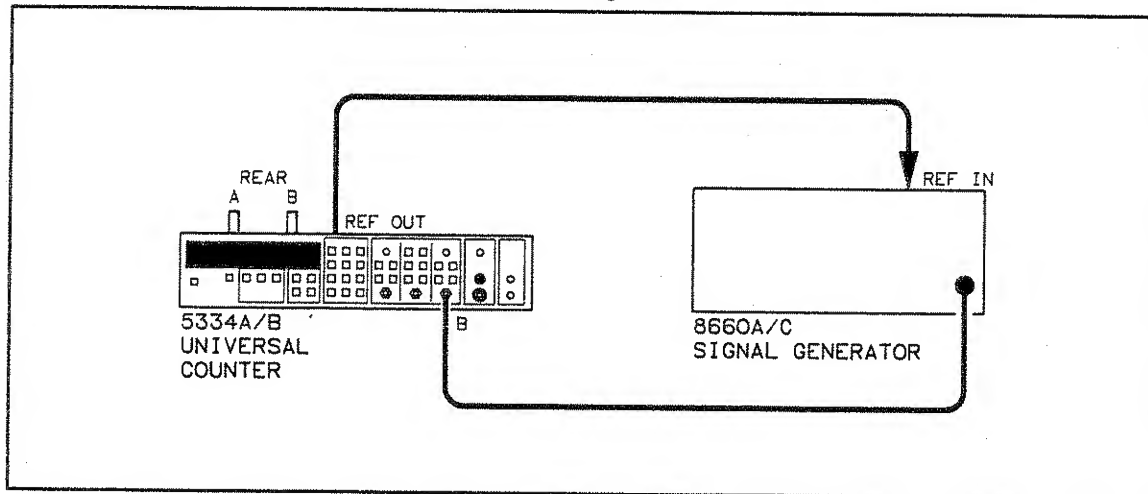

Figure 4-7. Channel B Frequency and Sensitivity Setup for Option 060
4. Connect the signal generator to the HP 5334A/B front panel Input B as shown in Figure 4-7.